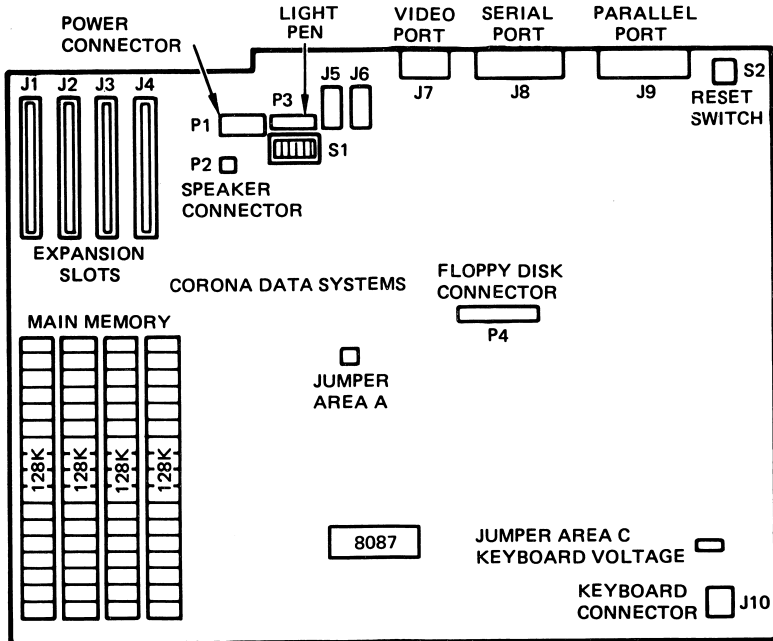
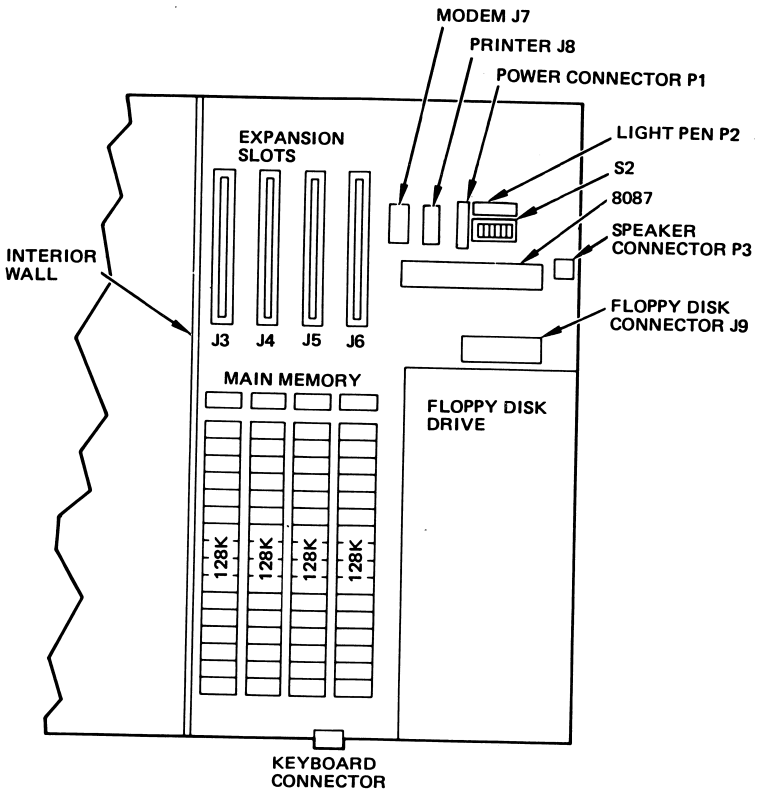

Figure 5-7. The Desktop Main Board
Figure 5-8. The Portable Main Board
Figure 5-7 is a diagram of the desktop's main board, and Figure 5-8 is a diagram of the portable's main board.
6. Remove the power connector (P1) and the speaker cable (P2) (refer to Figure 5-7 for location) by gently pulling straight up.
On the back left of the main board are four long, black, rectangular expansion slots marked "J1", "J2", "J3" and "J4" in the desktop (see Figure 5-7) and "J3", "J4", "J5" and "J6" in the portable (see Figure 5-8). There are many different products on the market that use these expansion slots. An example is a hard-wired modem (one that is installed inside your computer as an interface board rather than outside your computer as a small unit that sits by your phone).
The serial port has two jumper sockets on the main board: J5 and J6 on the desktop, and J7 and J8 on the portable. For locations refer to Figure 5-7 for the desktop and Figure 5-8 for the portable.
In the desktop, a red "DIP switch" (S1) with 6 white switches is located on the middle back of the main board, right below the fan that is mounted on the back wall of the system unit (Figure 5-7). See Figure 5-8 for the location of this switch (S2) in the portable. These six white switches control a variety of functions.
The following are other connectors and jumper areas found on the main board of the desktop (Figure 5-7). Refer to Figure 5-8 for locations on the portable.